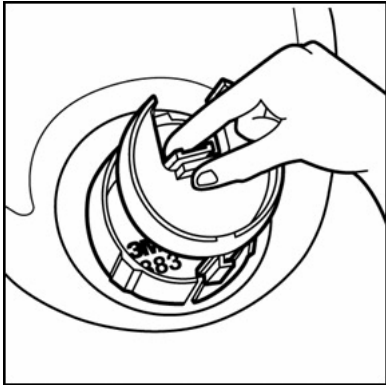

Fig. 16
2. Squeeze the locking tab at the back of the air director 6881 and pull back to disengage from the DIN port base 6883. (Fig. 16)
5. Align the lug at the bottom of the air director 6881 with the slot at the bottom of the DIN port base 6883. (Fig. 16) Slide forward and press the center knob until the locking tab clicks into place.